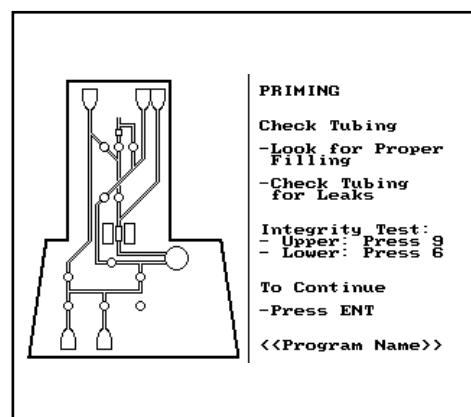

Figure 45: Screen no. 28.
The window will display screen no. 28 as shown in figure 45.
1. When the operator performs "Final check of all tubing and attachments" the window displays screen no. 28 as shown in figure 45.
1. The window displays screen no. 28 as shown in figure 45.
6. After 30 seconds the pressure is automatically released and the window displays screen no. 28 as shown in figure 45.